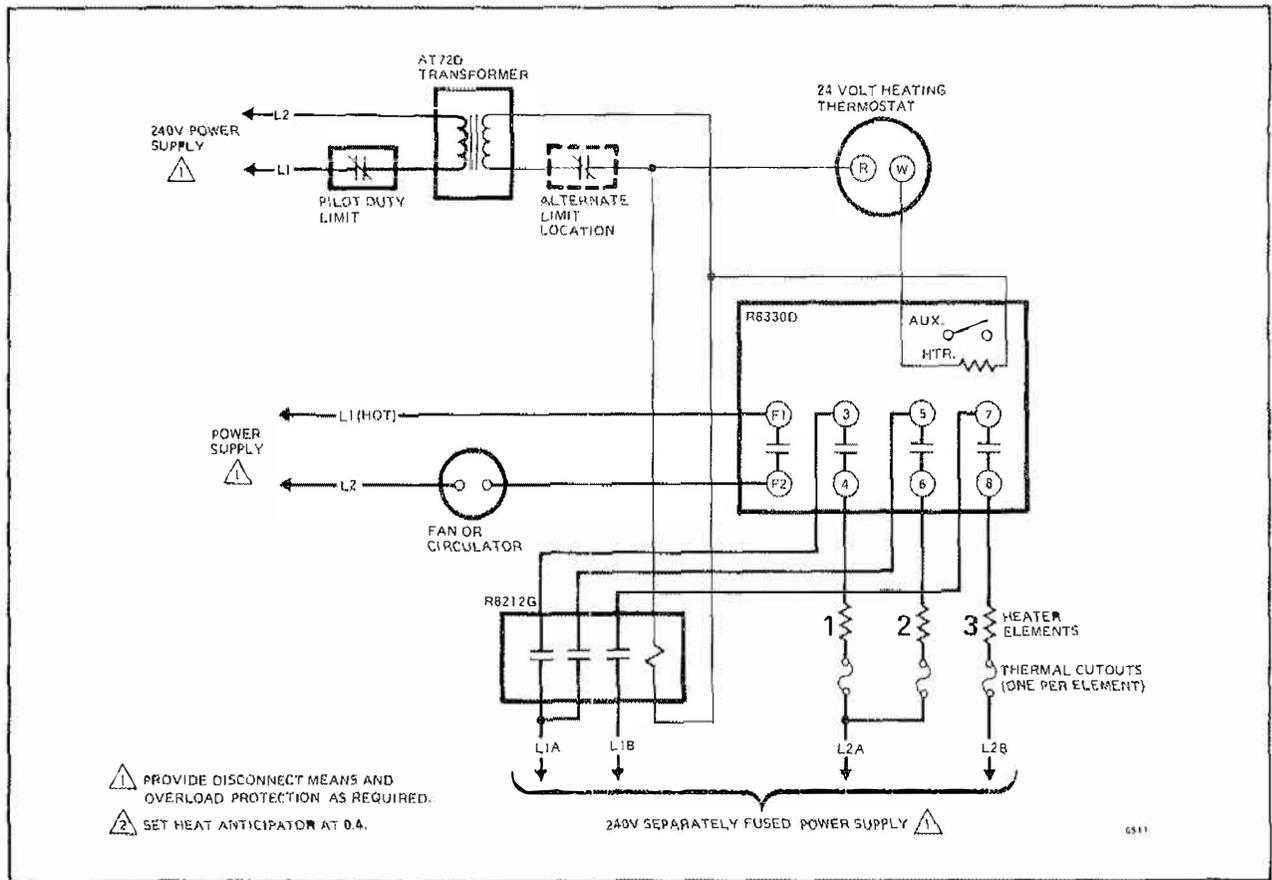

FIG. 15—TYPICAL HOOKUP FOR R8330D WITH PILOT DUTY LIMIT—3 ELEMENTS.
- d. In pilot duty limit systems, add contactor(s) as shown in Figs. 15 and 16.
Set the system thermostat to call for heat and make sure that all elements sequence on and off properly and that fan starts with first element on and stays on until all elements are off. Refer to Operation Sequence on appropriate wiring schematic. In pilot duty limit systems, contactor(s) should drop out when control circuit is de-energized by the pilot duty limit (Figs. 15 and 16).